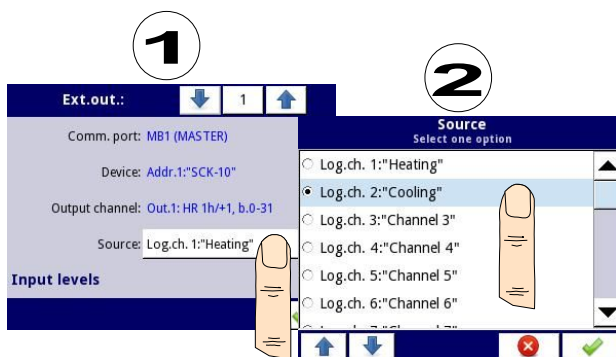

Fig. 7.95. Sample selection of **Source** for External output
- **Source** – this parameter allows to choose a source for external output from logical channel list (see **Fig. 7.95**),